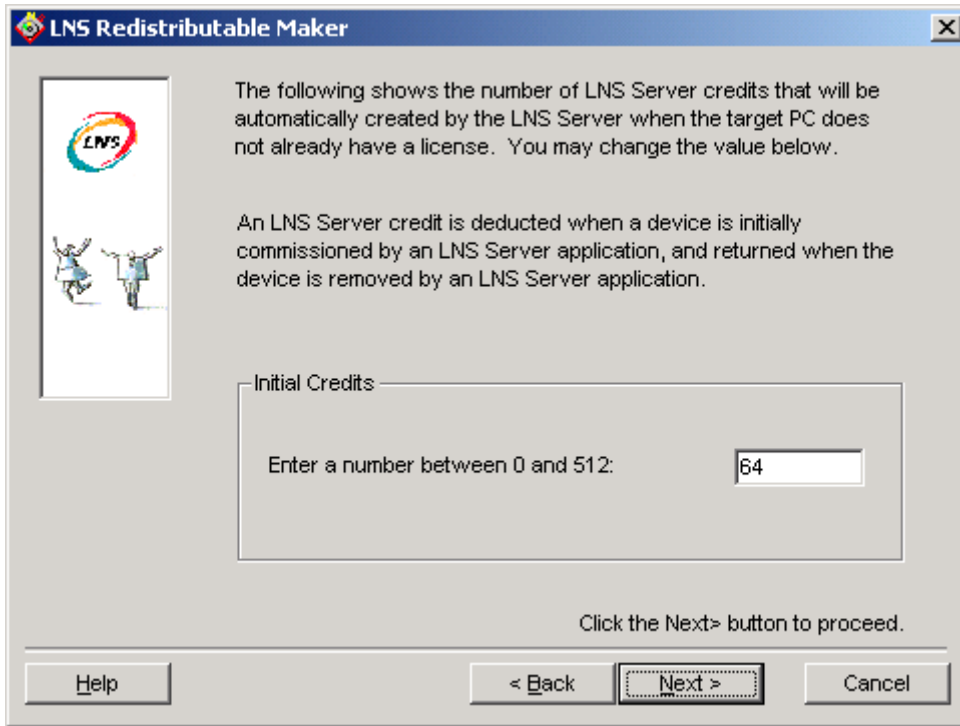

Figure 14.4 Initial Credit Selection Dialog
Click **Next** to continue. This opens the dialog shown in figure 14.4.
4. The LNS Redistributable Maker can allocate a number of LNS Device Credits to be available to the LNS Server installed with your application. Use the dialog shown in figure 14.4 to determine how many LNS Device Credits will be available. Once the LNS Server redistributable package is installed and registered with a Type 3 license, the LNS Device Credits allocated in this step will be enabled for the user.